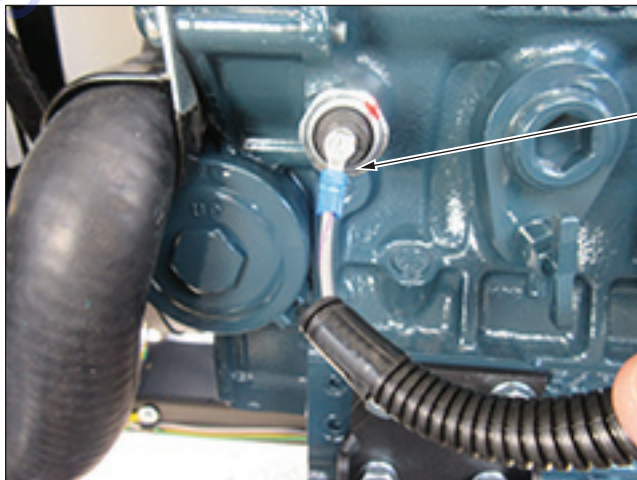

Figure 30 - Connect Oil Pressure Switch Wire
- i. See Figure 30. Connect gray/violet wire to oil pressure switch, as shown.